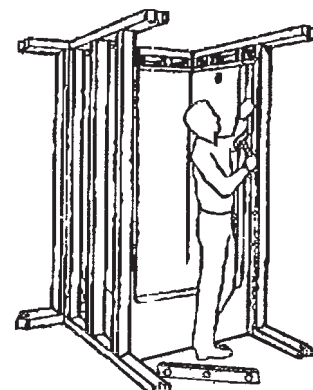

Fig. 4
1. Plumb and level the bathing unit front to back using the front post as your reference as well as side to side using the frame as your reference. We recommend shimming for leveling but it is not required. Drill at approximately eight inch intervals along the entire length of the vertical mounting flanges. Drill the horizontal mounting flanges at each stud. Attach the drilled flanges to the framing pocket, with 1-1/2" to 1-3/4" long roofing nails or equivalent nails or screws. (Fig. 4)